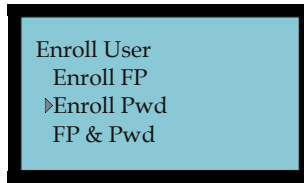

Figure 2-20 Enroll User Menu
3. Press **OK** to display the Enroll User menu and select Enroll Pwd (see **Figure 2-20**).